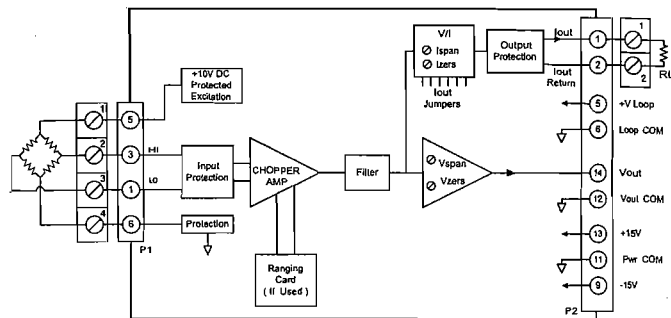

Figure 2.1.5.1 3B16 Functional Block Diagram
1. Connect model 3B16 as shown in Figure 2.1.5.1 with  $R_L = 250\Omega$ .